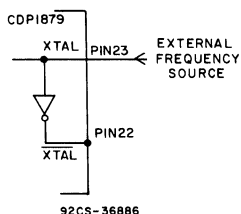
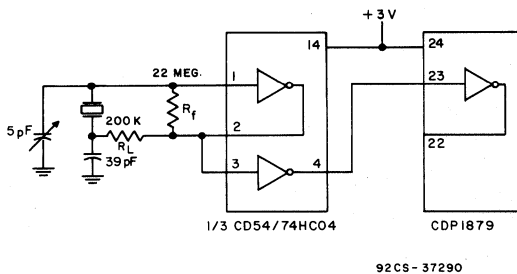
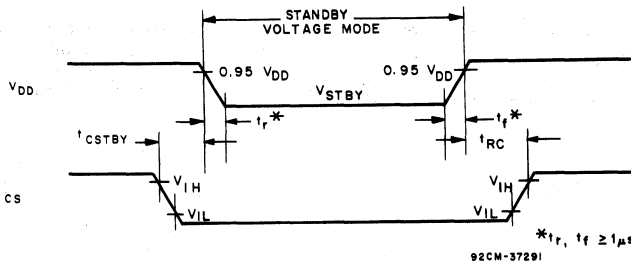
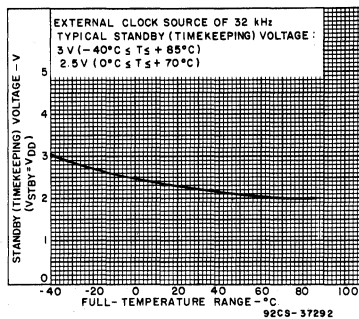

Fig. 5 - Connections for an external-frequency source applied to real-time clock.
Fig. 7 - Typical external clock-source circuit.
Fig. 8 - Standby (timekeeping) voltage- and timing-waveforms.
Fig. 9 - Typical standby (timekeeping) voltage vs. full-temperature range.
2. An external frequency input that is supplied at the XTAL input.  $\overline{\text{XTAL}}$  is left open (see Fig. 5). A typical external oscillator circuit is shown in Fig. 7 in section, "Standby (Timekeeping) VOLTAGE OPERATION".
clock source must be supplied at the XTAL input (see Fig. 7). The standby requirements for CHIP SELECT/DESELECT are listed in Table IV, and Fig. 8 indicates the timing waveforms. Fig. 9 illustrates the typical timekeeping curve over the full temperature range.